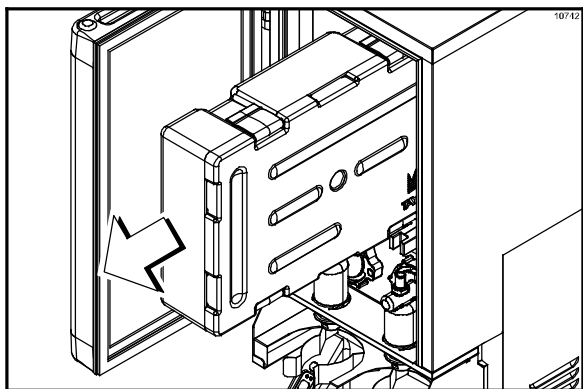

Figure 23
10. Check the product tube. Move the concentrate container forward and back into place. The sensor will reset and allow 30 seconds to dispense up to 3 small drinks. (See Figure 23.)